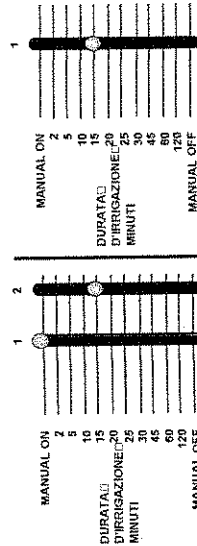

FIGURE 14: Manual Watering Station 1 Using the Slide Switch
- First move the watering duration slide switch to the **MANUAL ON** (fully up) position, then back to any duration position. For example, if you want to water a specific station for 15 minutes, push the slide switch to the **MANUAL ON** position then back to the 15 minute position [See Figure 14.]